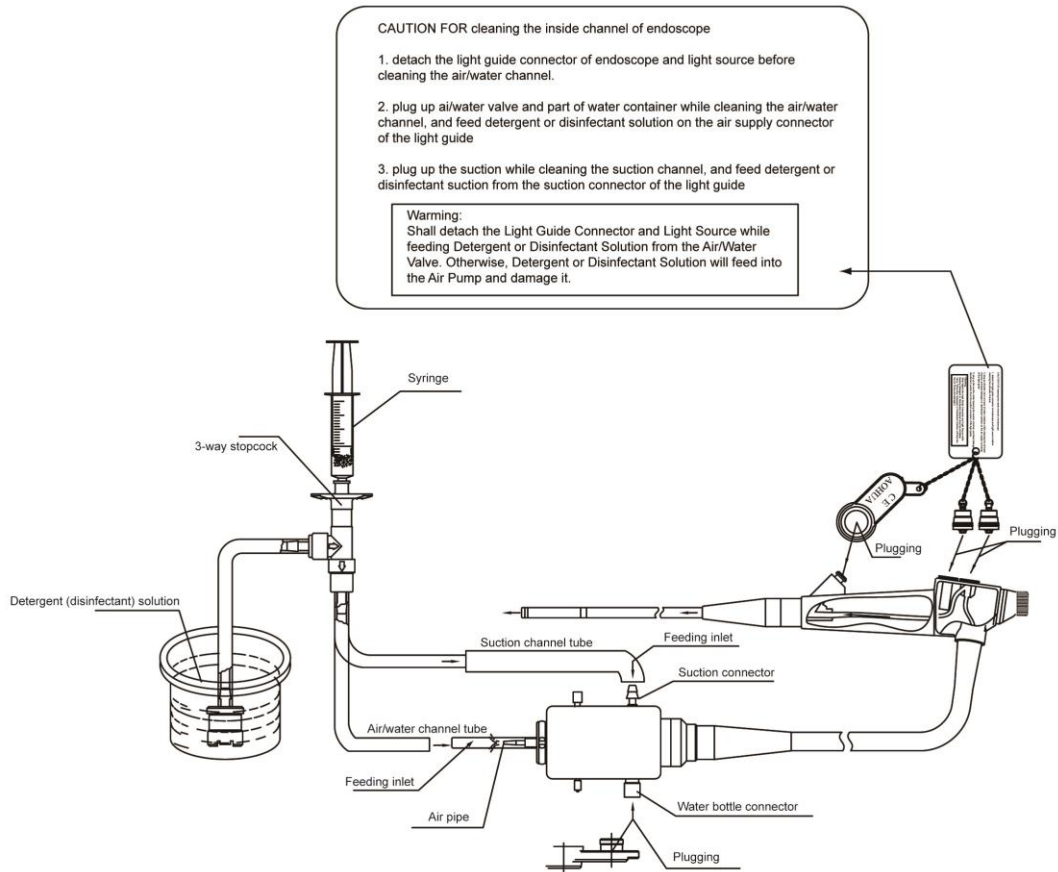

Figure 4.3
- △ Before cleaning the air/water tube, connect the purge pipe of the tube cleaner (disinfector) to the air feeding joint at the light guide connector. Meanwhile, plug the tube cleaner (disinfector) to the water bottle connector and the air/water cylinder of the endoscope. Then, put the inlet valve of the tube cleaner (disinfector) in detergent solution, and repeatedly aspirate the syringe to wash the air/water channel tube. (For the connection and operation method, see Figure 4.3 Tube Cleaning and Disinfection)
△Before cleaning the suction and instrument channel tubes, connect the purge pipe of the tube cleaner (disinfector) to the suction connector on the light guide connector. Meanwhile, plug the tube cleaner (disinfector) to the suction cylinder and the biopsy port of the endoscope. Then, put the inlet valve of the tube cleaner (disinfector) in detergent solution, and repeatedly aspirate the syringe to wash the suction and instrument channel tubes. (For the connection and operation method, see Figure 4.3 Tube Cleaning and Disinfection.)